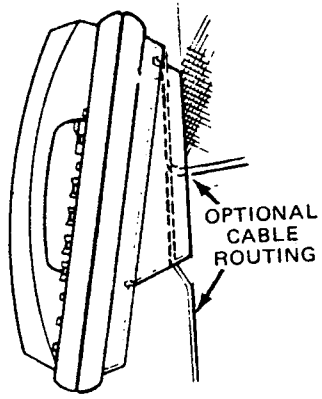

FIGURE 35—EKT WIRE ROUTING
09.17 Route the tail cord through the holes in the base and secure the EKT (Figure 35).